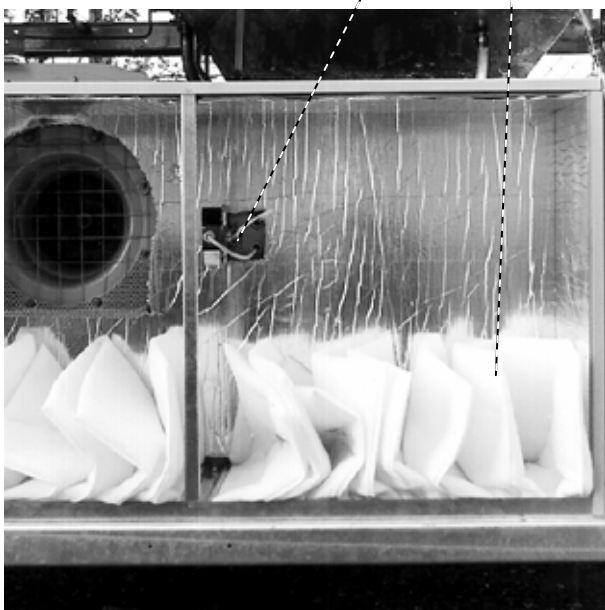

Fig. 11b Air intake silencer open
- Evaporator 1.1 or air intake filter (Fig. 11b) fouled,